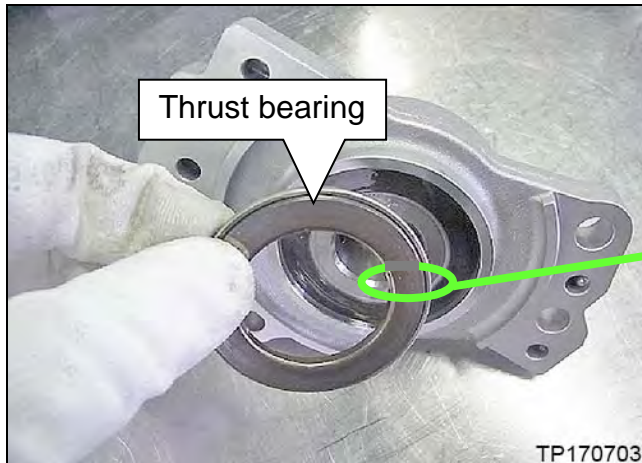
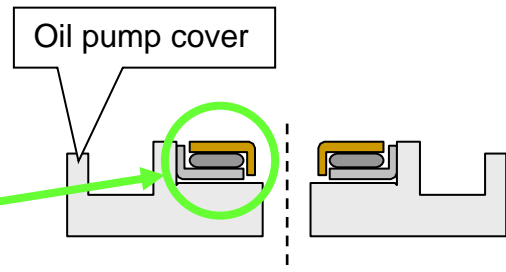

Figure 14L
Figure 15L
- **Orientation IS critical.** See Figure 14L and Figure 15L for thrust bearing cross section.